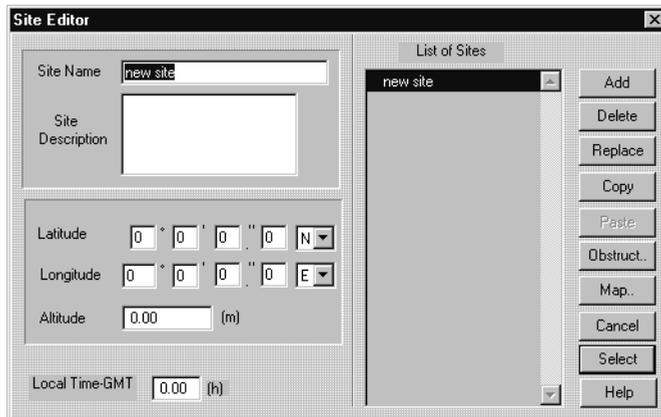

Figure A.4. Site Editor Dialog Box
2. The **Site Editor** dialog box opens, Figure A.4, where you can enter new sites to view satellite availability. To create a New Site, see “Adding a Site to the Project” on page 122.